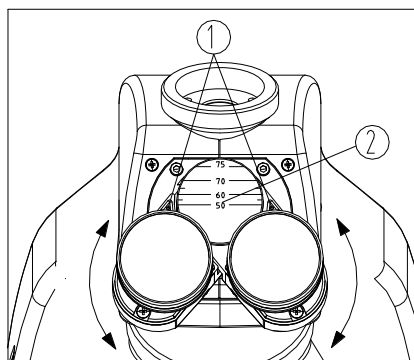

Fig.11
“①” on the eyepiece base points to the scale ② of interpupillary indication, means the value of interpupillary distance (see Fig. 11).